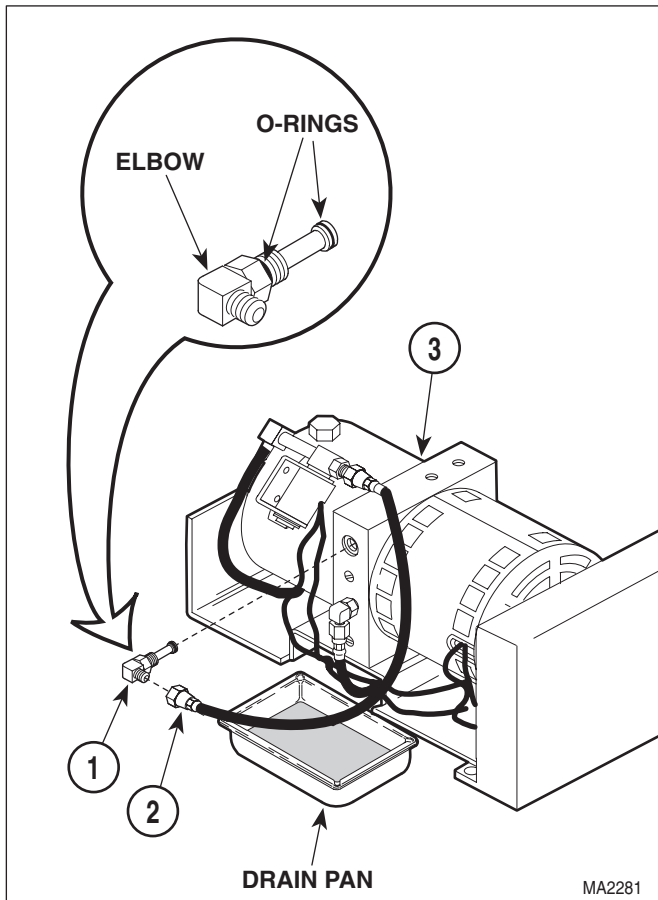

Figure 4-4. Down Functions Shuttle Valve Removal / Installation
- (3) Place rags or drain pan under down functions shuttle valve (1, Figure 4-4).
- (4) Disconnect hose assembly (2) from elbow of down functions shuttle valve (1).
- (5) Remove down functions shuttle valve (1) from motor pump (3).